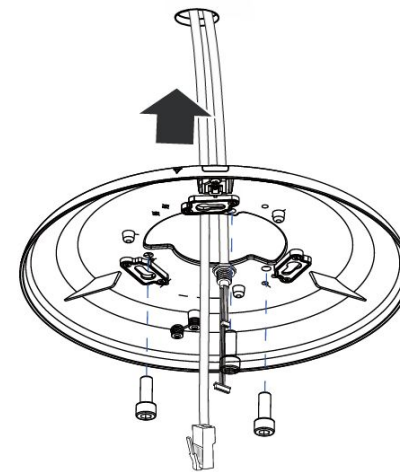

Figure 1-4
Step 4 Align the screw holes of the camera base plate with the mounting hole sites, and then tighten the mounting screws into the screw holes until they are held firmly. See Figure 1-4.